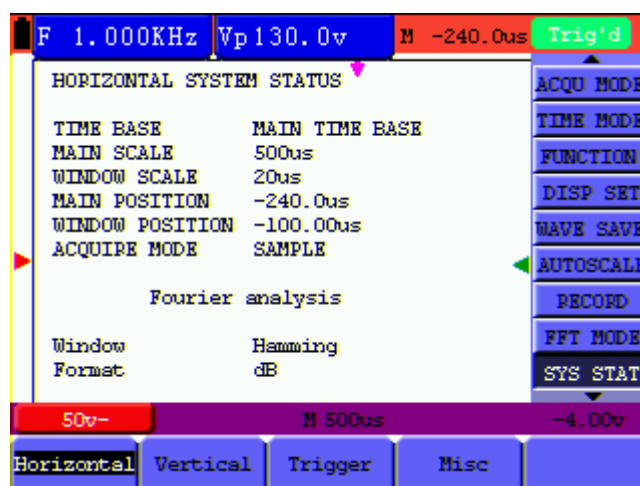

Figure 59: System State
4. The screen that looks like the following figure 59 will be displayed.